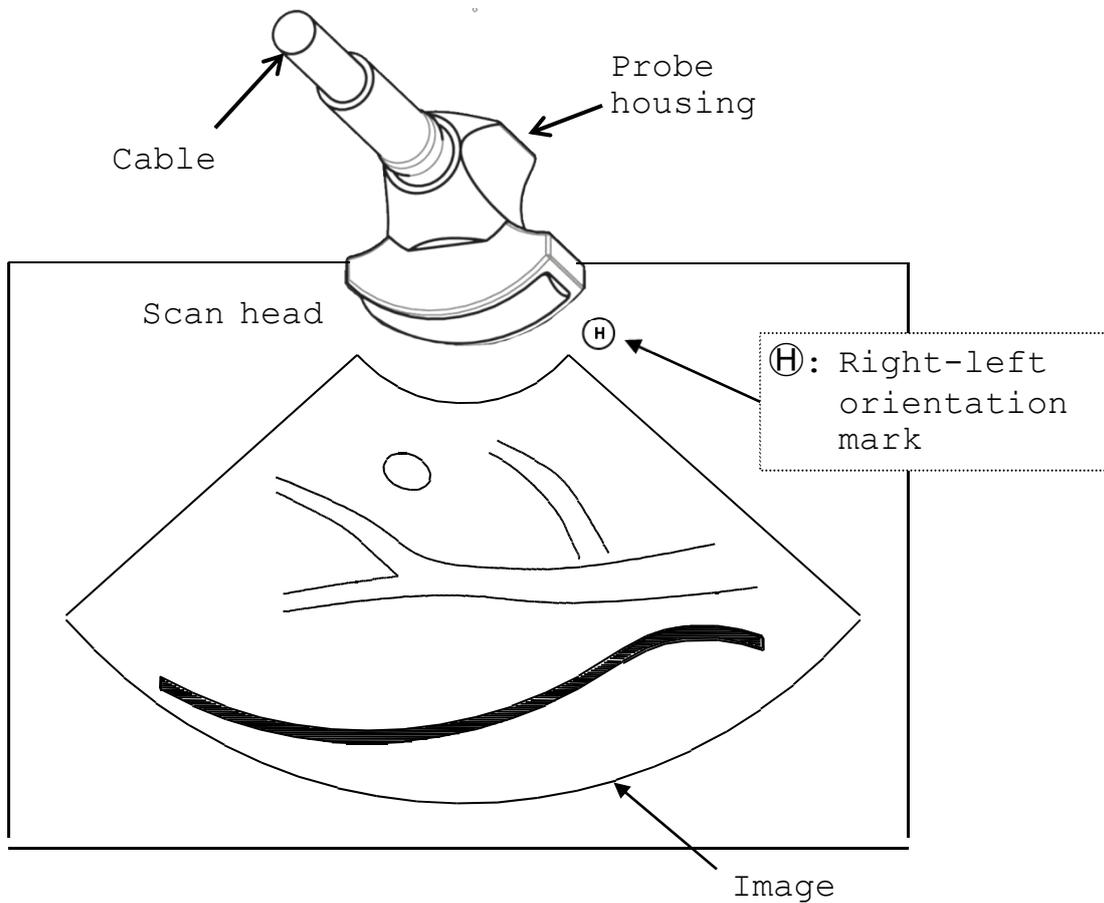

Fig. 2 Relationship between direction of the probe and Right-left orientation Mark
- 4) The relationship between the direction of the probe and the right-left orientation mark on image is shown in Fig. 2.